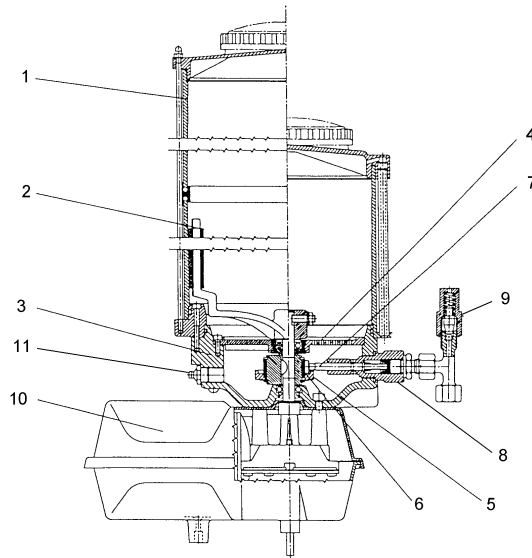

Fig. 28
The Beka-Max greasing system is a progressive system that can use grease of NLGI class 2 (normal grease). See the technical specifications for details on grease types. Progressive means that all greasing points included in the net tying system are lubricated successively. This makes greasing easier to monitor by means of a pressure valve (figure 28, pos. 9). If a greasing point is not fed with grease from the distributor, progressive distribution is blocked and the pressure increases to 280 bar in the net tying system. This fault is shown on the emergency valve on the pump element by grease emerging from it. This should be checked on a regular basis. Not all greasing points receive the same amount of grease as there are different types of valves to control the quantity of grease on the distribution units. These are adjusted to each greasing point's lubrication requirement, relative to the other points.
- ❑ Filling must only be done via the grease nipple on the outside of the pump housing (fig. 28, pos. 11) until the correct level is reached.